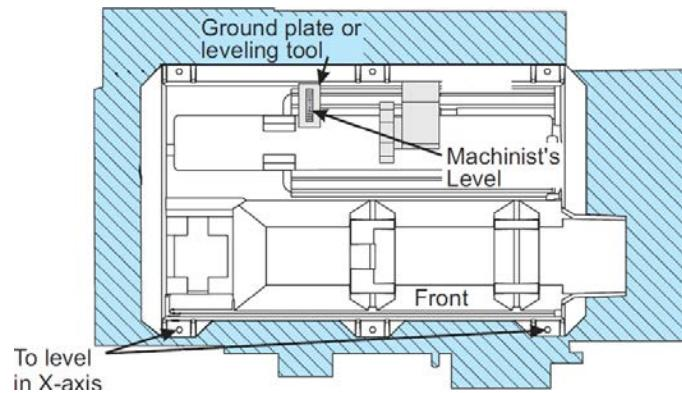

Figure 3
6. Use the leveling tool (T-2119A), or a ground block across the rear Z-axis linear guide and place the machinist's level on it. The level is now parallel to the X-axis.(See figure 3).